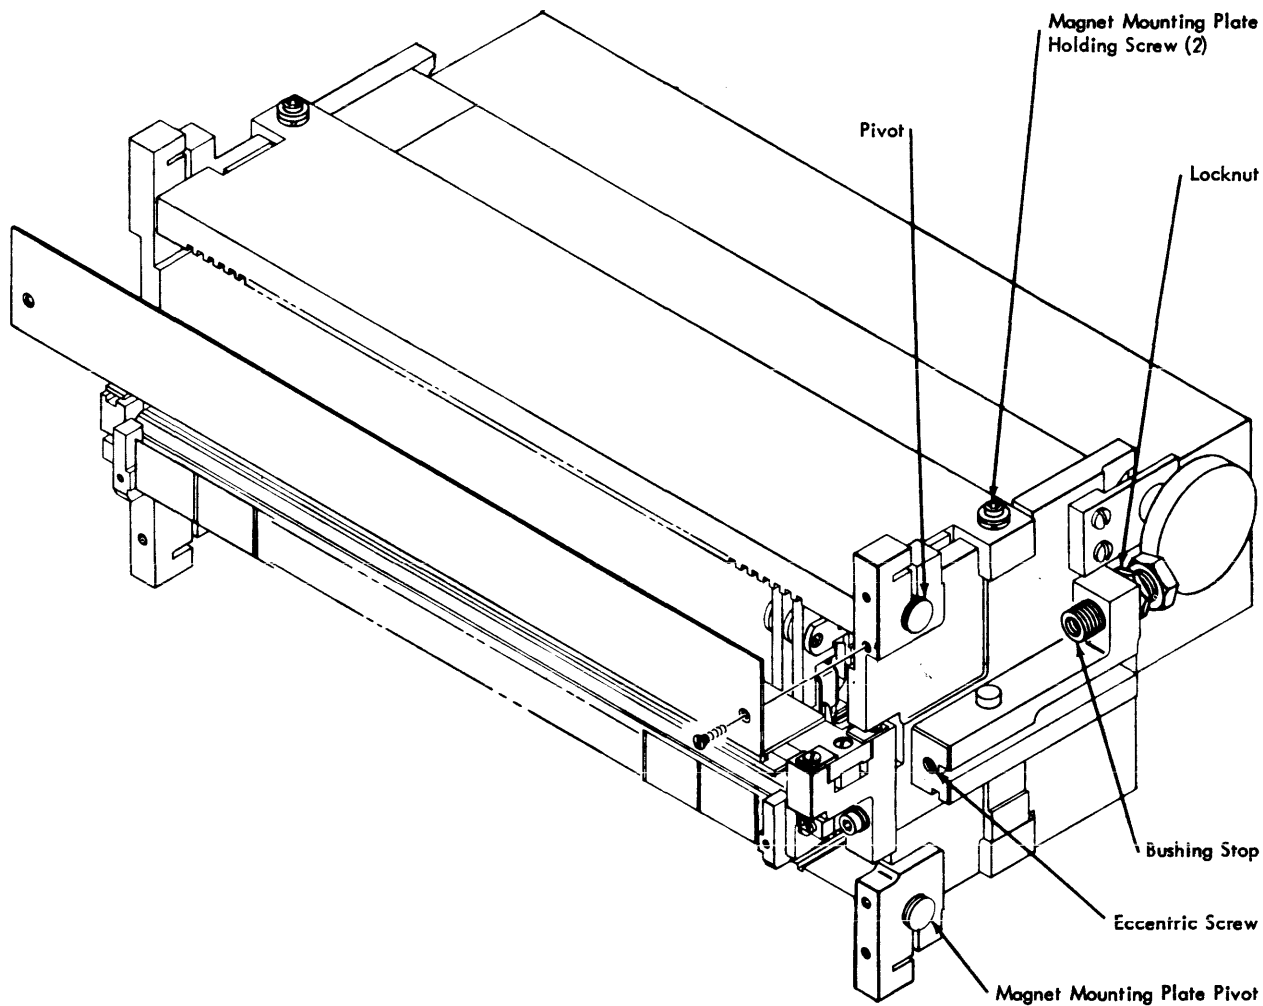

Figure 87. Hammer Unit Assembly
9. Adjust the hammer unit bushing stops (see Figure 87), to bring the locating blocks into visible contact with the center portion of the tool.